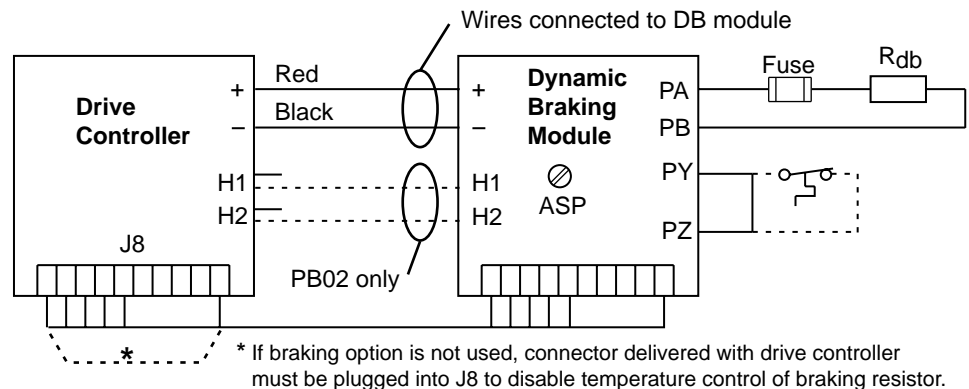

Figure 5-8 Connecting the Dynamic Braking Module
9. Connect the resistor-fuse power wires to the module resistor power terminal connections, located under the access cover. Replace the access cover (see Figure 5-8).
10. If a thermal switch is used, connect the thermal switch to PY-PZ terminals of the dynamic braking module. If a thermal switch is not used, jumper PY-PZ terminals (see Figure 5-8).